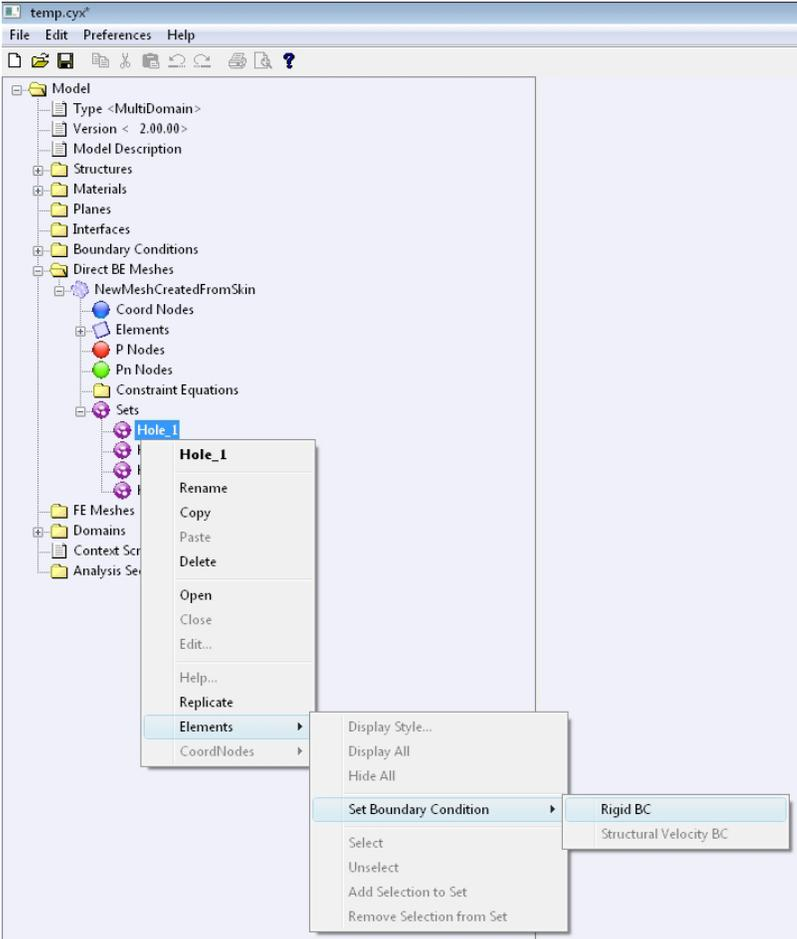

Figure A.19 Apply boundary conditions through sets.
- Right-click on **Holes\_1** and select: **Elements** → **Set Boundary Condition** → **Rigid BC** as shown in Figure A.19.